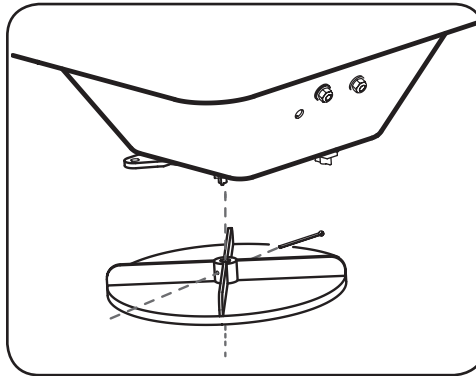

Figure 1-6
- Secure the spinner disc to the motor shaft with a cotter pin. See Figure 1-6.